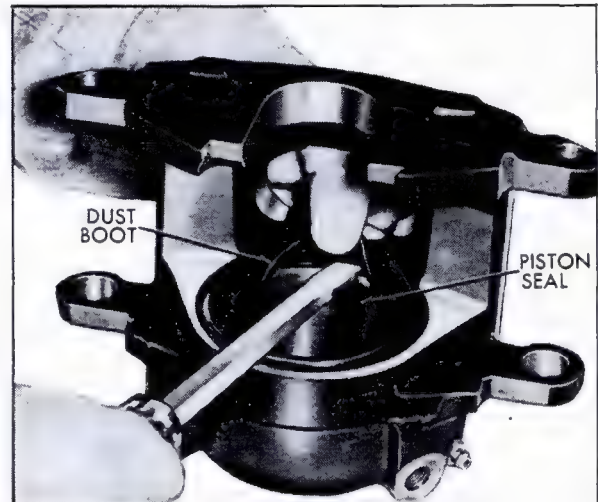

Fig. 5-13 Removing Dust Boot
7. Using a screwdriver, pry boot out of housing, being careful not to scratch bore, Fig. 5-13. Discard boot.